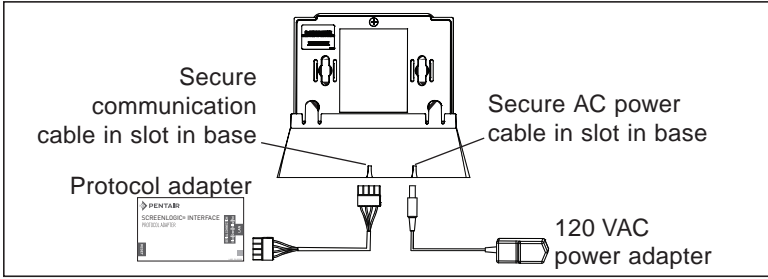

Figure 1: Cradle/Desk Mount the HPW Indoor Transceiver
Base/Desk Mount the HPW Indoor Transceiver (Figure 1 on page 7)
1. Insert the power cable into the base of the HPW Link Indoor transceiver base. Fasten the cable into the cradle slot (see Figure 1 on page 7).
2. Insert the connection cable into the base of the transceiver cradle. Fasten the cable into the cradle slot (see Figure 1 on next page).